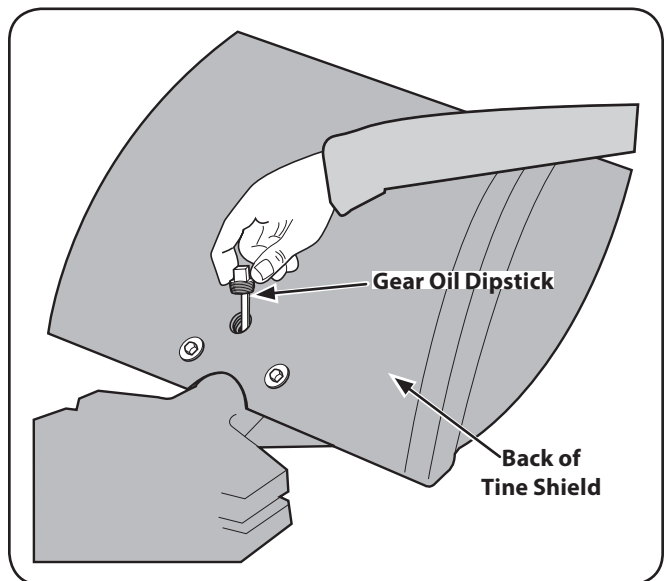

**Figure 6-6**
4. Use a  $\frac{3}{8}$ " wrench to remove the oil level check plug on the left side of the transmission housing. See Fig. 6-6.
2. Remove the dipstick from the tine attachment. See Fig. 6-6.